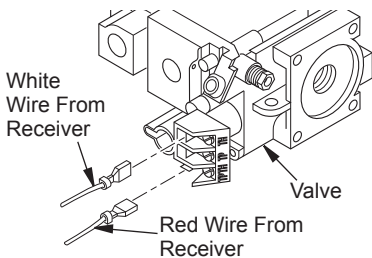

Figure 28 - Connecting Wires
6. Connect wires as shown in Figure 28.